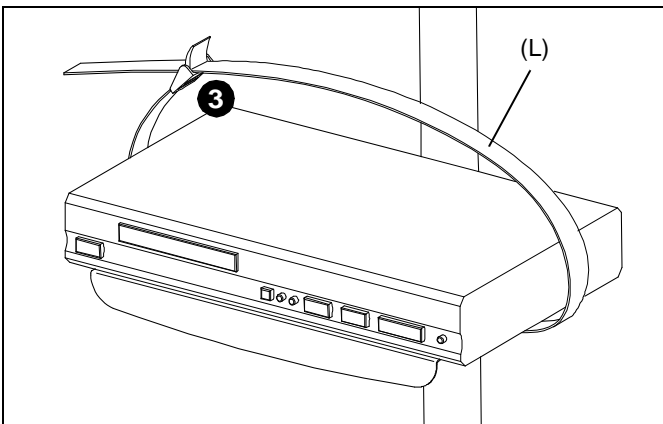

Figure 6
3. Loop strap (L) over top of equipment and slide strap end into clasp. (See Figure 6)